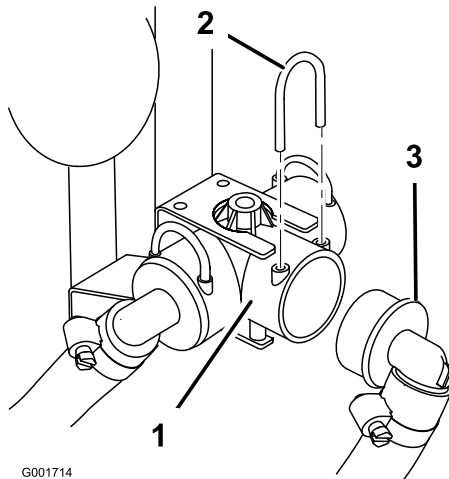

Figure 6
1. Locate the valve assembly on the right side of the tank, remove the retaining fork to disconnect the boom supply hose from the supply tee (Figure 6).